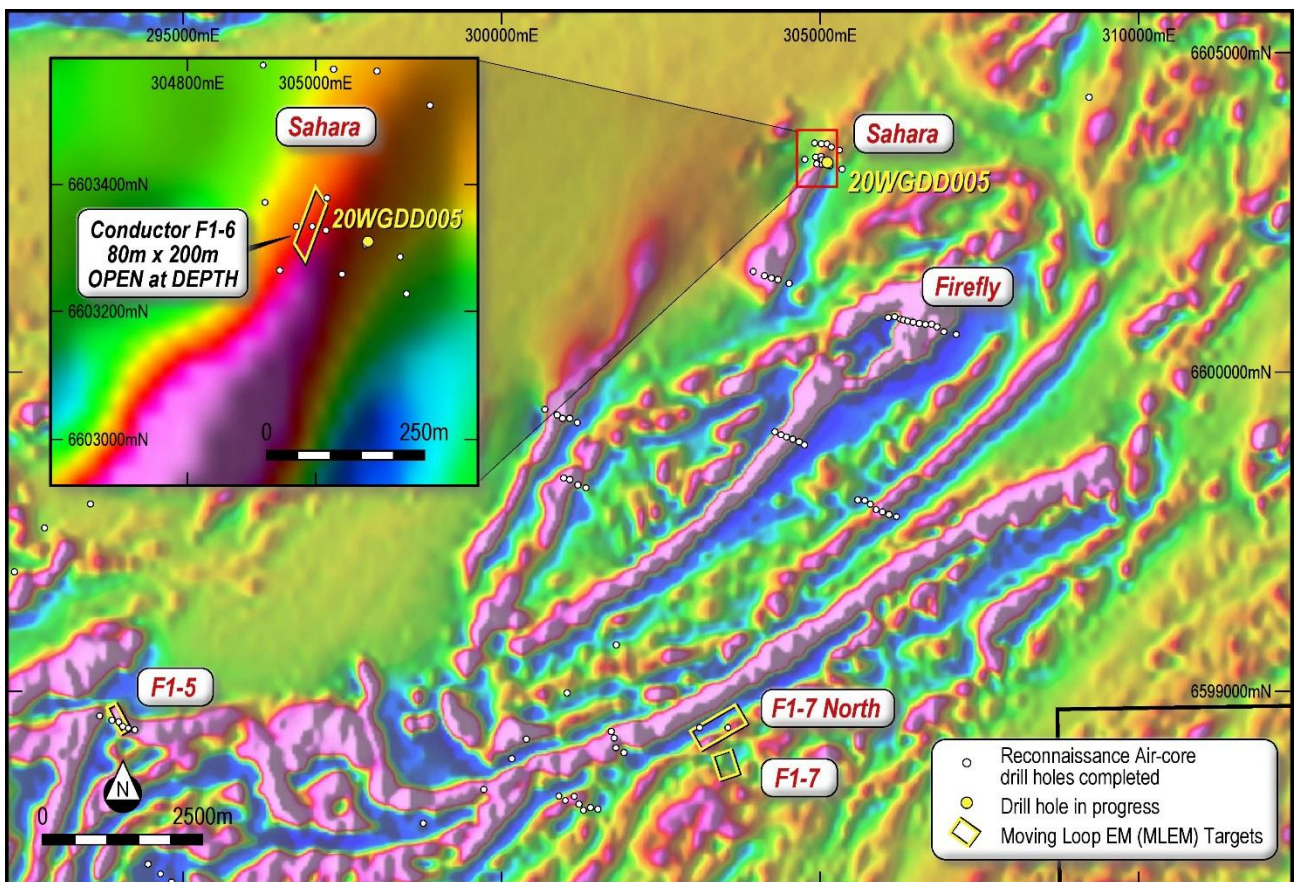

Figure 5. Sahara Prospect and additional regional targets
- Drilling targeted electromagnetic (EM) conductor plate F1-6 (target plate dimensions 80m strike x >200m dip), which was successfully intersected at 195m down-hole depth. **The EM conductor is currently unconstrained below 250m, remaining open at depth.**
- **Numerous interpreted mafic intrusive bodies (and accompanying EM conductors) remain to be tested** in the Firefly district, with the Company now modifying drilling plans to focus on the Sahara – Firefly area (Figure 5).